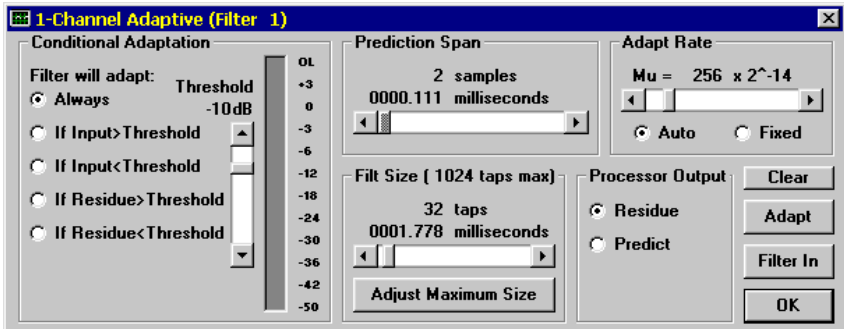

Figure 3-9 Tutorial 1CH Adaptive Filter Control Window
22. Click on the **Control** button in the Filter 1 block. The window in Figure 3-9 will appear:
23. Use the mouse to set all controls to match the settings shown in Figure 3-9\*. Do not click on the **OK** button at this time.